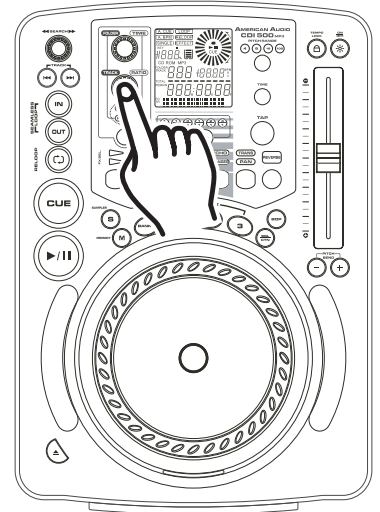

Figure 50
**HOLD BUTTON:** Use the *HOLD BUTTON* (19) to lock your customized parameters. If the hold button is not activated any changes to your parameters will be momentary. To activate the hold function press the *HOLD BUTTON* (19) as in figure 50. When the hold function becomes activated, the hold button will begin to glow red.